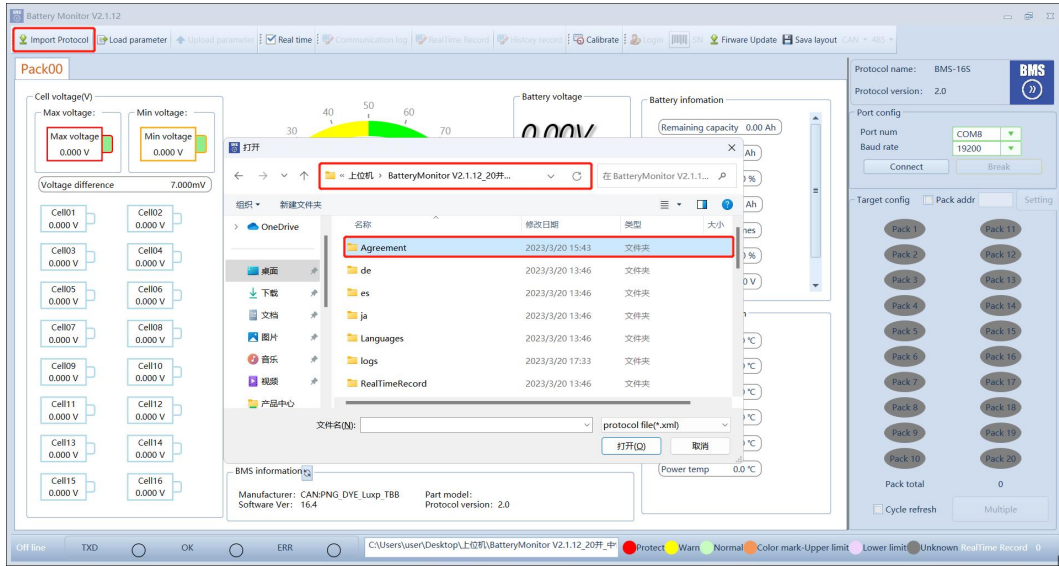

Figure 3-1
1) Open the upper monitor, click "Import Protocol", and select "Agreement" in the upper monitor file to open, Figure 3-1